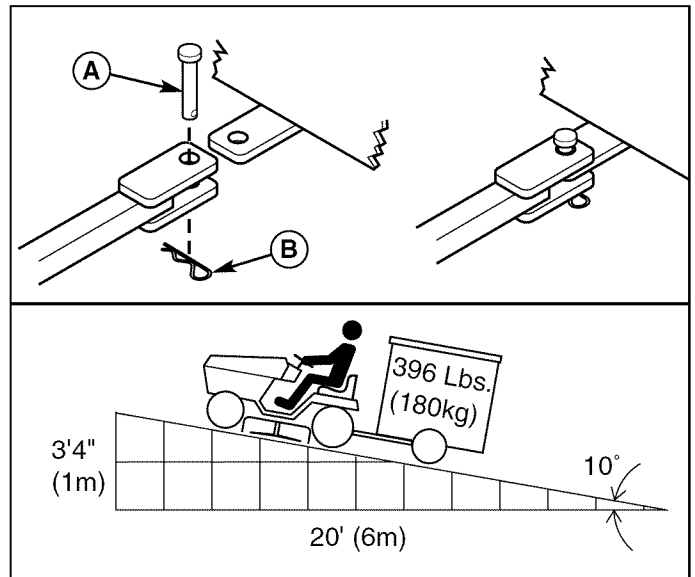

Figure 16. Trailer Weight Recommendations
The maximum horizontal drawbar force allowed is 444 Newton. The maximum vertical drawbar force is 222 Newton. This equates to a 396 lbs (180 kg) trailer on a 10 degree hill. Secure the trailer with an appropriately sized clevis pin (A, Figure 16) and clip (B).